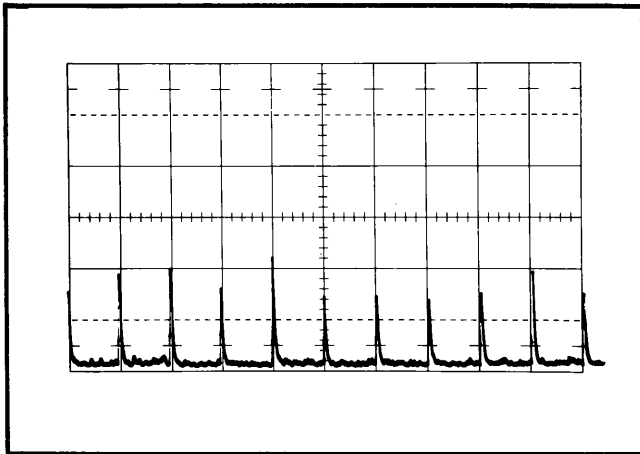

Fig. 2-9. Pulse repetition rate measurement: 50 $\mu\text{S}/\text{CM}$ sweep.
4. Set the Time/CM switch of the oscilloscope to display several pulses of the applied signal (see Fig. 2-9). Be sure the Variable Time/CM control of the oscilloscope is in the Calibrated position.
5. Count the number of lines (pulses) in one or more divisions and use the oscilloscope sweep rate to compute the time between each pulse. In the example of Fig. 2-9, the pulse repetition rate is: